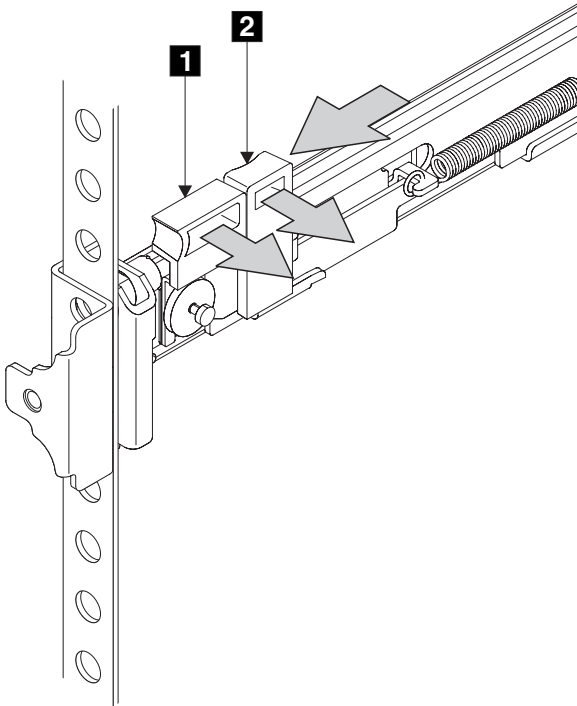

Figure 63. Closing the latch-lock carrier assembly
8. Push the latch lock **2** (Figure 63) away from the rail to release the carrier. The latch-lock carrier slides toward the front of the rack and the locating pins project through the holes that are in the front flange and in the front rail bracket.